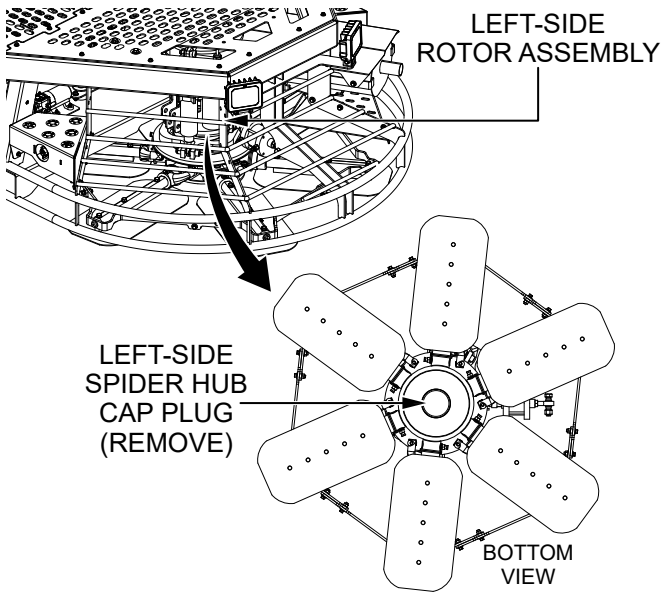

Figure 57. Remove Left-Side Spider Hub Cap Plug
2. Remove the left-side **spider hub cap plug** (Figure 57) and set it aside.